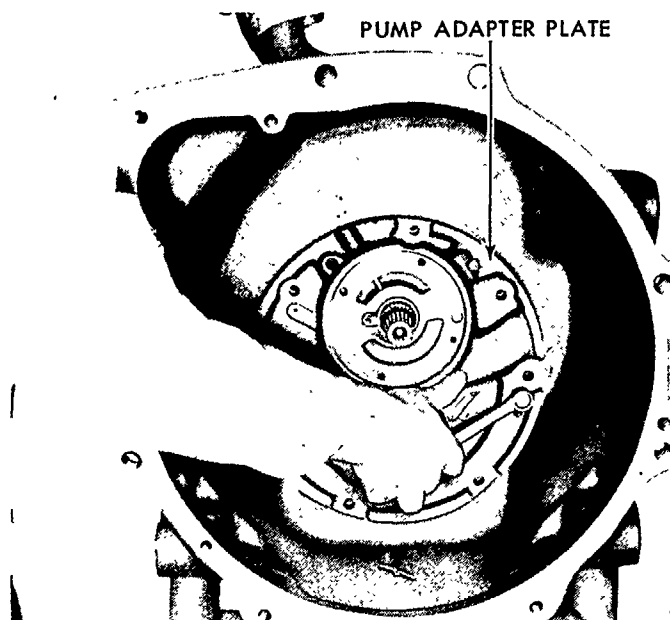

Figure 85
4. Remove the six bolts and one nut securing the adapter plate to the case. Remove the plate by using two retaining bolts as jack screws, shown in Figure 85.